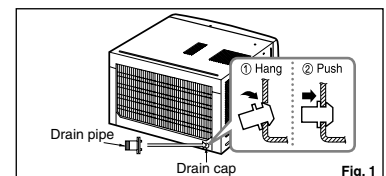

Fig. 1
In humid weather, excess water may cause the BASE PAN to overflow. To drain the water, remove the DRAIN CAP and secure the DRAIN PIPE to the rear hole of the BASE PAN. Press the drain pipe into the hole by pushing down and away from the fins to avoid injury. (See Fig.1)
1. Open the window. Mark a line on center of the window sill (or desired air conditioner location). Carefully place the cabinet on the window sill and align the center mark on the bottom front with the center line marked in the window sill. (See Fig. 1)